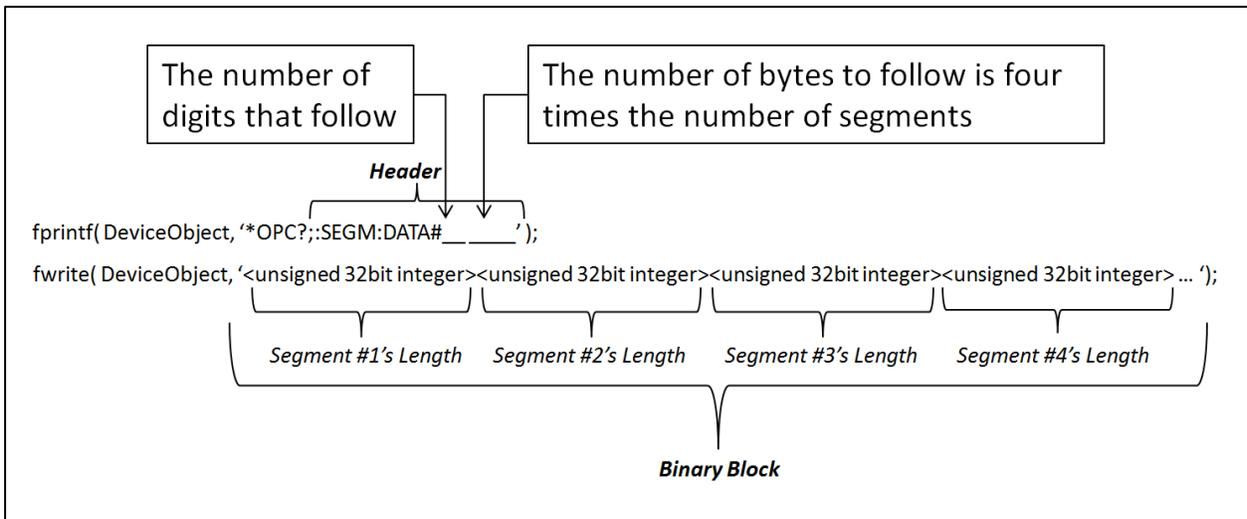

Figure 4: How Tabor's AWG interpret the SEGM:DATA command.
- VIII. Due to hardware considerations, when using the :TRACE:DATA command to download several short waveforms as one long waveform, you will need to add **16 dummy points (if minimal segment size is 384, then you will need to add 32 dummy points)** at the start of each waveform (except the first) as shown in figure 4 below. Dummy points are points with the same value as the first point of the related segment. This addition must not be added to the total length of the segments. Therefore, this should not be taken into consideration while sending the segments length using the SEGM:DATA.